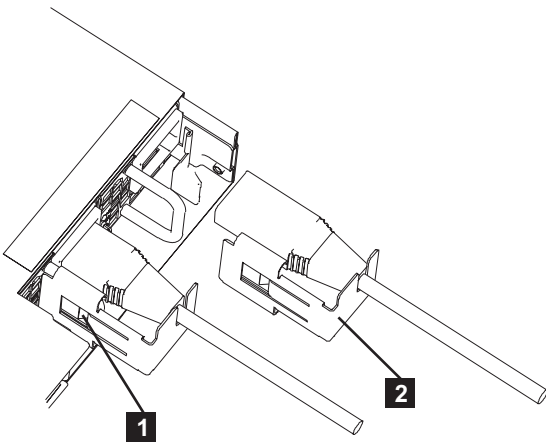

Figure 24. Cable-retention brackets
The SAN Volume Controller 2145-CG8 or 2145-CF8 uses two toolless cable-retention brackets, one to retain each cable from the uninterruptible power-supply to one of the two SAN Volume Controller 2145-CG8 or 2145-CF8 power supplies, as shown in Figure 24.
4. Align the cable-retention bracket on the power cord so that the bracket is to the left of the cord, as shown by **2** in Figure 24.